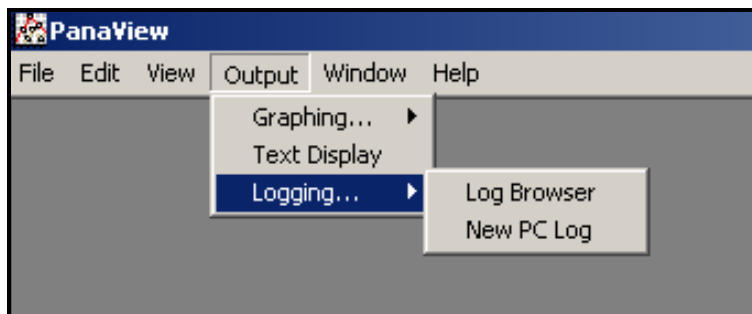

Figure 3-4: Selections in the Logging Option
1. Open the *Output* menu (see Figure 3-4 below), and click on the *Logging* option.
- Pull down the *Output* menu (see Figure 3-4 on page 3-7), and click on the *Log Browser* option. Advance to the *PC Logs* dialog box as described in previous sections. A screen similar to that shown in Figure 3-14 below appears.